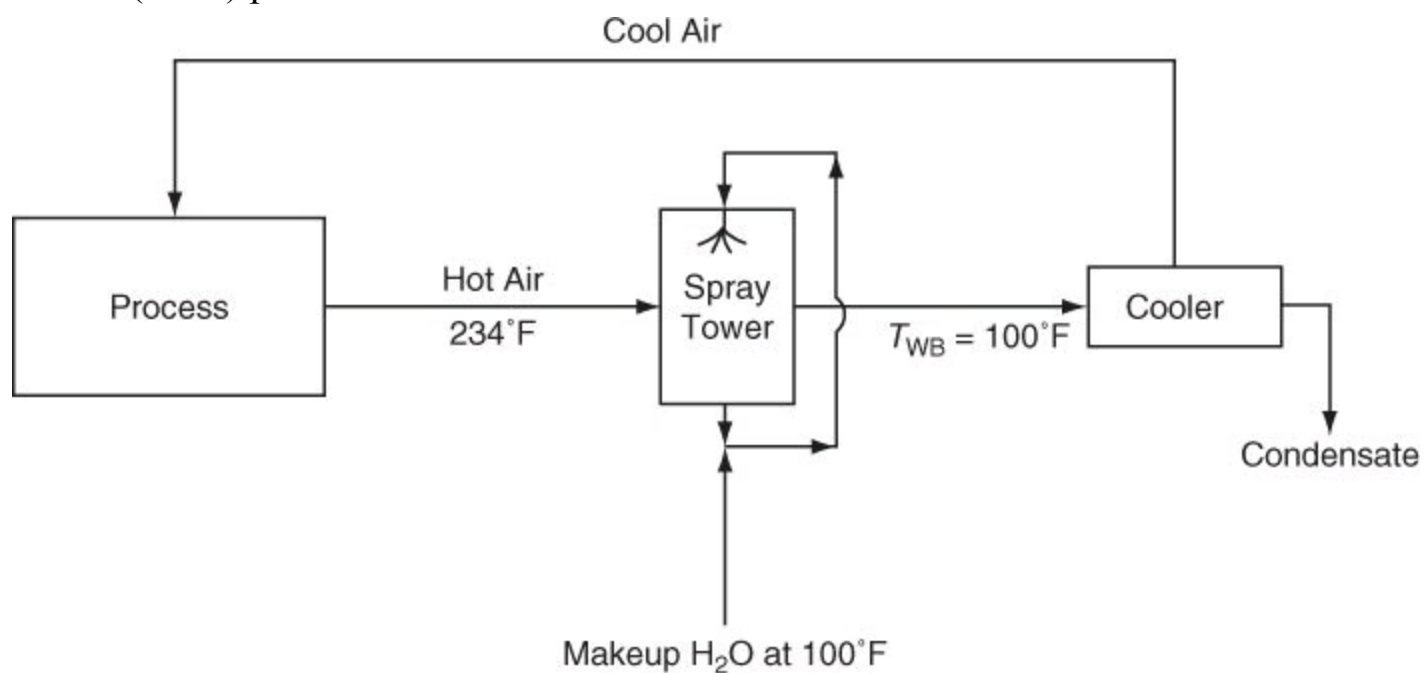

Figure P11.3.9
******11.3.9.** Air is used for cooling purposes in a plant process. The scheme shown in Figure P11.3.9 has been proposed as a way to cool the air and continuously reuse it. In the process, the air is heated and its water content remains constant. It is estimated that the air leaving the process will be at 234°F regardless of the entering temperature or the throughput rate. The air must remove 425,000 Btu/hr from the process. Water for the spray tower is available at 100°F . This tower operates adiabatically with the air leaving saturated. Determine the following: (a) the wet-bulb temperature and percent relative humidity of the air leaving the process; (b) the temperature and dew point of the air leaving the cooler; (c) the psychrometric chart for this cycle; (d) the air circulation rate needed in pounds bone-dry air (BDA) per hour.